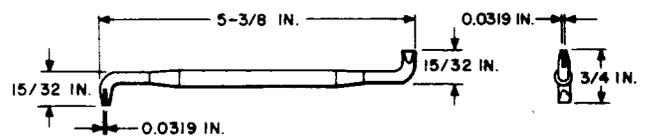

Fig. 2—AECO H-7066 Adjuster Tool
2.02 **AECO H-7066:** The AECO H-7066 tool (Fig. 2) is a spring adjuster used on step-by-step type relays and the 197- and 198-type switches.